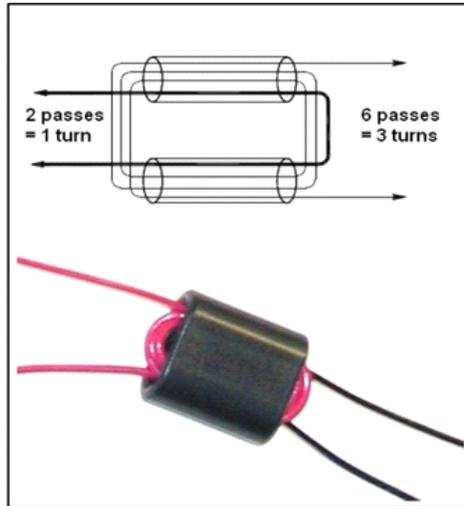
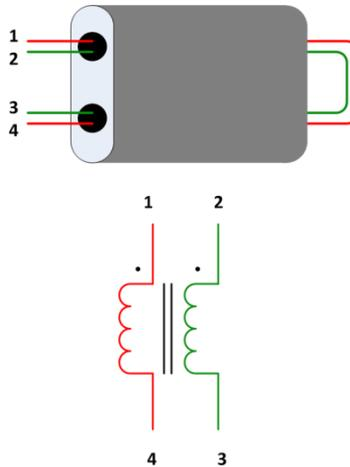

Figure 10. Transformer winding technique
Figure 15. Bifilar winding technique
8. Wind T1 on the binocular ferrite core with a 5-turn primary using green magnet wire and a 5-turn secondary using red magnet wire. Please note that the insulation must be scraped off the wire with a knife or sandpaper where solder connections are made. The insulation is not solder-strippable. Refer to Figure 10 as an example of a transformer winding. The primary and secondary windings should exit from opposite ends of the core.
17. Transformer T1 is 10 turns center-tapped using **9 inches of green 28 AWG** and **9 inches of red 28 AWG**. As in Figure 10, two passes form one turn. First wind 5 turns of the green wire through the core and then start a second winding of 5 turns with the red wire. Solder the end of the first 5 turns to the beginning of the second 5 turns to form the tap point. Solder the three transformer connections to the PCB. The center tap goes to the middle hole on the PCB. Because of the symmetry of the tapped transformer, it does not matter which ends of the transformer go to the outer holes.
19. Transformers T2, T3, are T4 are wound as bifilar transformers. Figure 15 shows the bifilar winding technique. Take two wires (shown as red and green in the figure) in parallel and wind them through the binocular core, keeping them together as though they were a single wire. As in Figure 10, two passes form one turn.